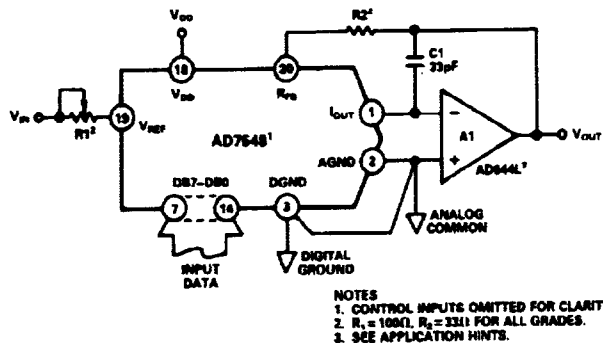
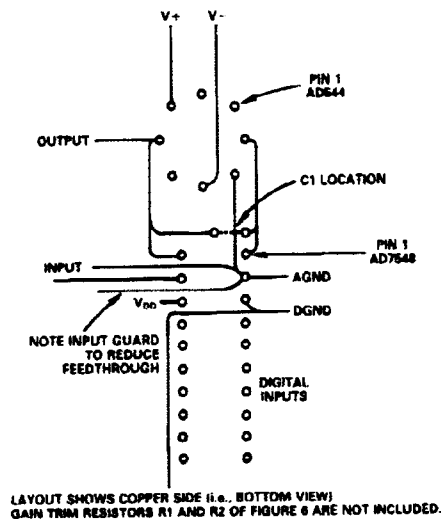

Figure 6. Unipolar Binary Operation
Figure 9. Suggested Layout for AD7548 and Op Amp
The contents of the DAC register can be overridden by pulling  $DF/\overline{DOR}$  (pin 5) LOW. The  $CTRL$  (pin 6) input then determines whether the DAC register data is overridden by all 0s ( $CTRL$  LOW) or all 1s ( $CTRL$  HIGH). This feature allows the user to calibrate the AD7548 in circuits such as Figure 6 without calling on the microprocessor to load calibration data.
Figure 6 shows the analog circuit connections required for unipolar binary operation. With a dc input voltage or current (positive or negative polarity) applied at pin 19, the circuit is a unipolar D/A converter. With an ac input voltage the circuit provides 2-quadrant multiplication (digitally controlled attenuation).
Table I shows the code relationship for the circuit of Figure 6.
Table I. Unipolar Binary Code Table for Circuit of Figure 6
**Output Offset:** CMOS D/A converters in circuits such as Figures 6 and 7 exhibit a code dependent output resistance which in turn cause a code dependent amplifier noise gain. The effect is a code dependent differential nonlinearity term at the amplifier output which, depends on  $V_{OS}$  where  $V_{OS}$  is the amplifier input offset voltage. To maintain monotonic operation it is recommended that  $V_{OS}$  be no greater than  $(25 \times 10^{-6})(V_{REF})$  over the temperature range of operation. Suitable op amps are AD517L and AD544L. The AD517L is best suited for fixed reference applications with low bandwidth requirements: it has extremely low offset ( $50\mu V$ ) and in most applications will not require an offset trim. The AD544L has a much wider bandwidth and higher slew rate and is recommended for multiplying and other applications requiring fast settling. An offset trim on the AD544L may be necessary in some circuits.
**Feedthrough:** The dynamic performance of the AD7548 will depend upon the gain and phase stability of the output amplifier, together with the optimum choice of PC board layout and decoupling components. A suggested printed circuit layout for Figure 6 is shown in Figure 9 which minimizes feedthrough from  $V_{REF}$  to the output in multiplying applications.